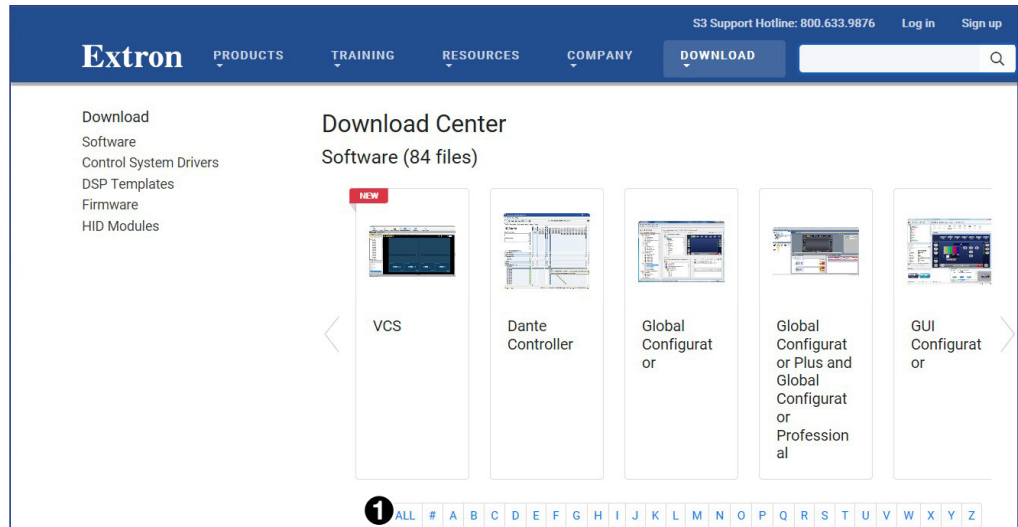

Figure 15. Software Page with Alphabetic Navigation Bar
2. Click on **Software** link (2) on the drop-down menu. The **Software** page opens (see **figure 15** on the next page).
3. Click on the **F** link from the alphabetic navigation bar (see figure 15, ❶). The page of software that begins with the letter **F** opens.